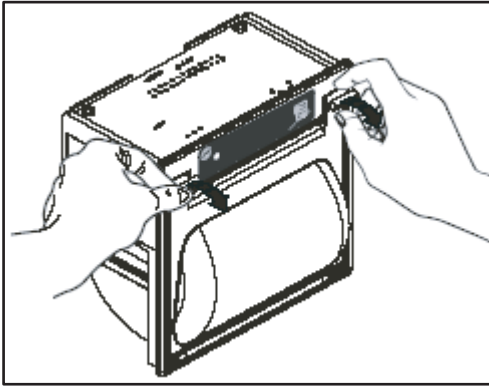

Fig. 28: Opening printer
1. Open the lid of the printer as shown in Fig. 28